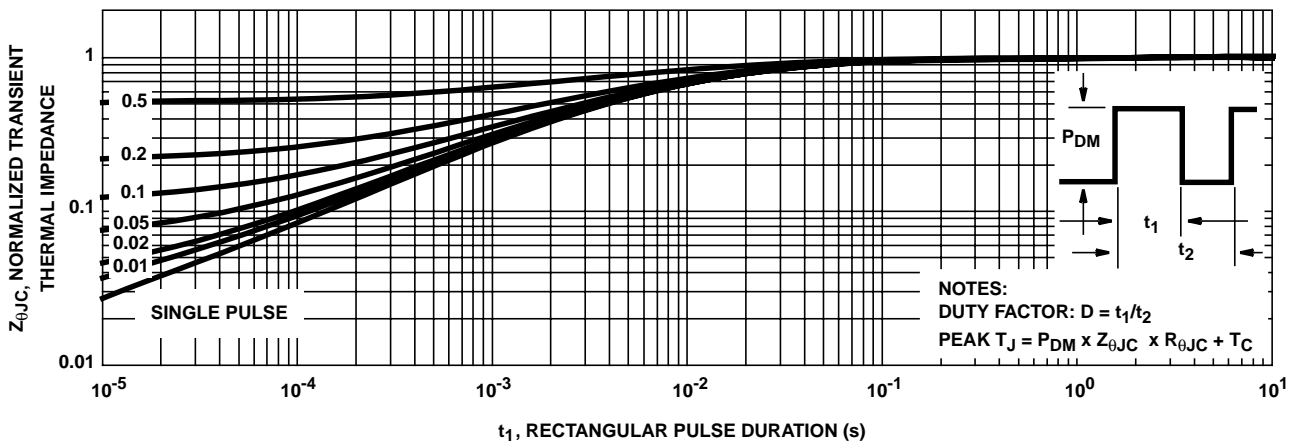
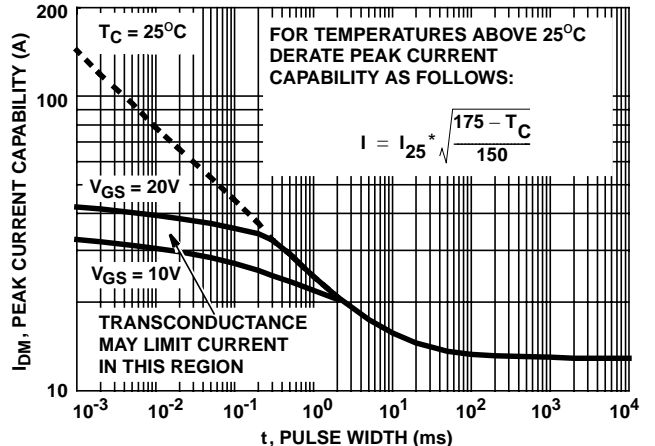

FIGURE 3. NORMALIZED MAXIMUM TRANSIENT THERMAL IMPEDANCE
FIGURE 5. PEAK CURRENT CAPABILITY
- Repetitive Rating: Pulse Width limited by max junction temperature. See Transient Thermal Impedance Curve (Figure 3) and Peak Current Capability Curve (Figure 5).